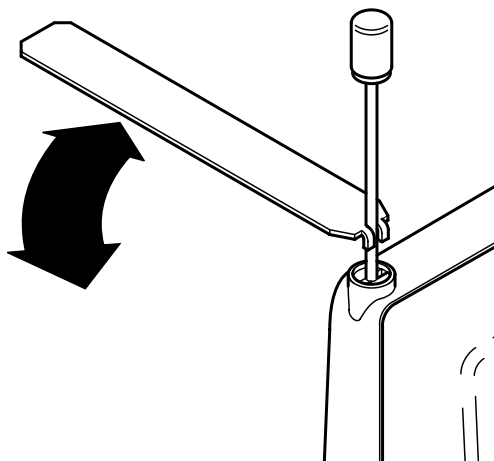

Figure 15: Antenna removal
1. (Figure 15) Unscrew and remove the antenna from the cover using the antenna removal tool.